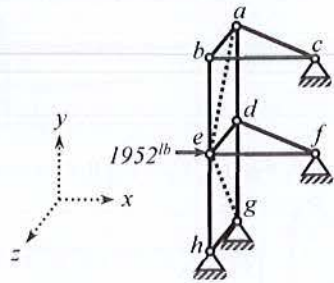

Fig.1
- Ignore zero-force members of the space truss *abcdefgh* shown in Fig.1 and apply boundary conditions to formulate stiffness matrix and load vector